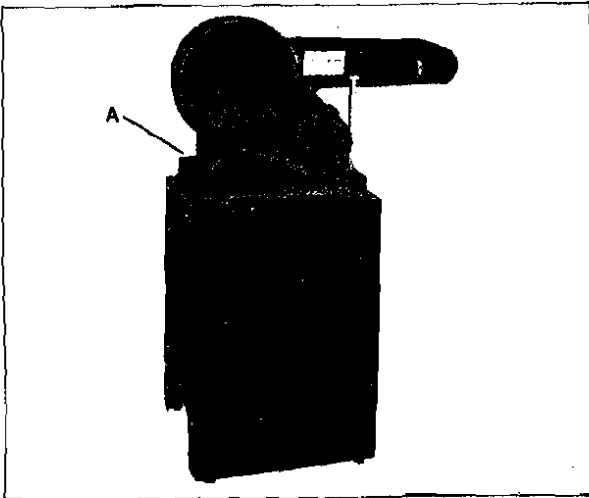

Fig. 5
Return stand to upright position. Place body (A) on the stand as shown in Fig. 5, being sure to align the four threaded holes in the bottom of the body with the holes provided in the stand. Use the four hex bolts and washers provided (G) and secure body to stand.